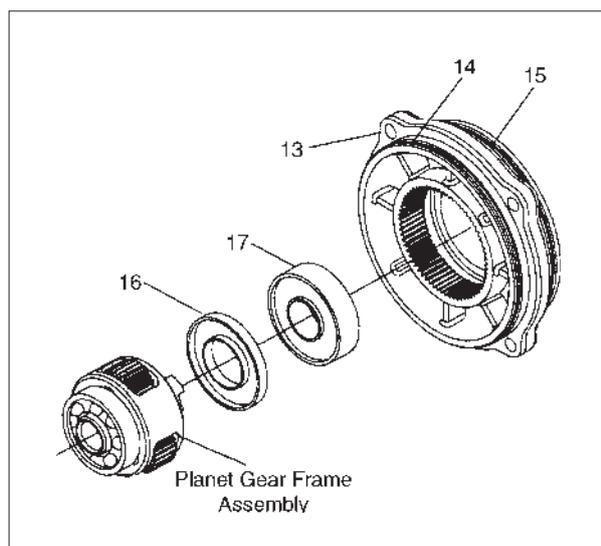

Fig 3.
12. Remove the intermediate gear case assembly from the vise and remove the intermediate pinion (26). Remove the rear gear case o-ring (14) and front gear case o-ring (15) from the intermediate gear case (13), See fig 3.